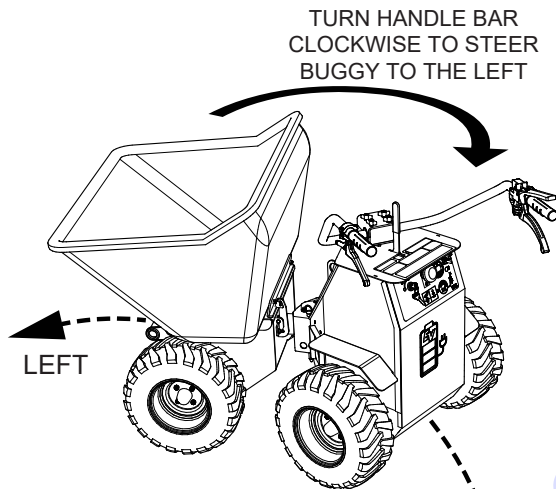

Figure 10. Steering the Buggy (CW-Left)
- To turn left (Figure 10) when traveling in the forward direction, turn the handle bar clockwise.